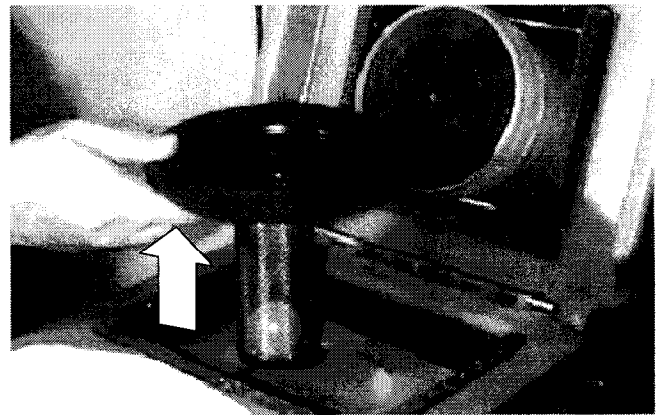

FIG. 15.
3. Clean ball float screen inside tank once every month. Lift float screen assembly out of tank. Be certain to replace screen securely. (Figure 15.)